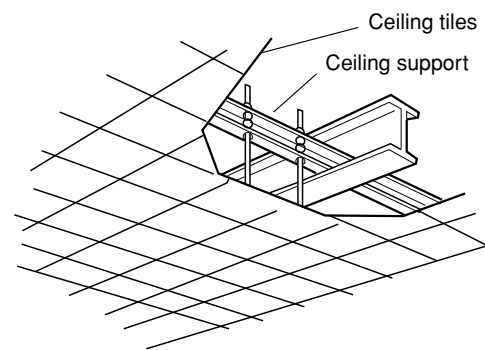

Fig. 3-101
- Use existing ceiling supports or construct a suitable support as shown in Fig. 3-101.